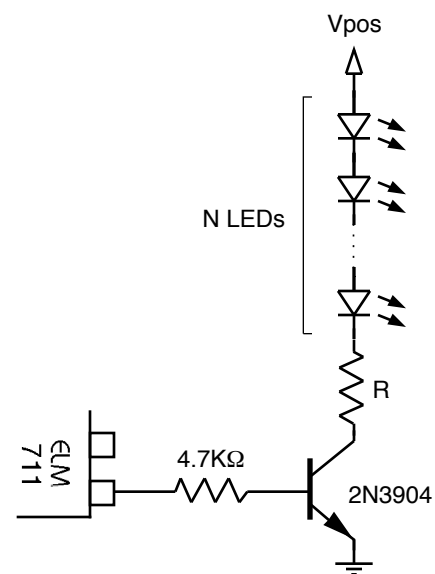

Figure 5. Driving LED Strings
Often, the ELM711 will be used to drive more than one LED per output, however. The circuit of Figure 5 shows the IC connected to a transistor driving several LEDs from a power supply of V_{pos} volts. As long as the sum of the LED voltages is less than V_{pos} , the resistor (R) will have a significant voltage across it, and the total current in the string will be determined by the voltage across the resistor R , and the value of the resistance.